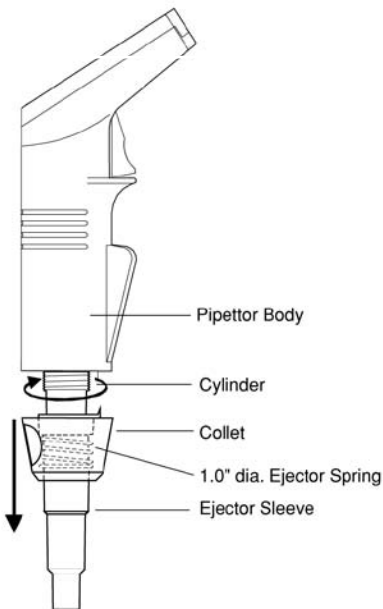

Figure F.1.1b:
2. Remove the collet and ejector sleeve by sliding both pieces down over the cylinder (see Figure F.1.1b). For reassembly later, note the position of the large spring in the collet.